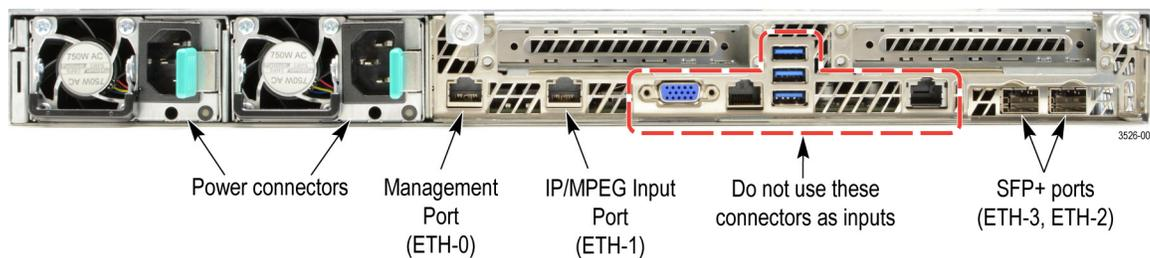

Figure 2: Rear panel connectors – Premium chassis
2. If your instrument has the optional Ethernet-based transport stream input capability (GigE), connect one end of an Ethernet cable to the **IP/MPEG Input Port** on the rear of the instrument. (See Figure 2 on page 10.) Connect the other end of the cable to your video transport stream source.
1. Connect an Ethernet cable between the **Management Port** on the instrument and the Ethernet port on a standalone computer. (See Figure 2 on page 10.)